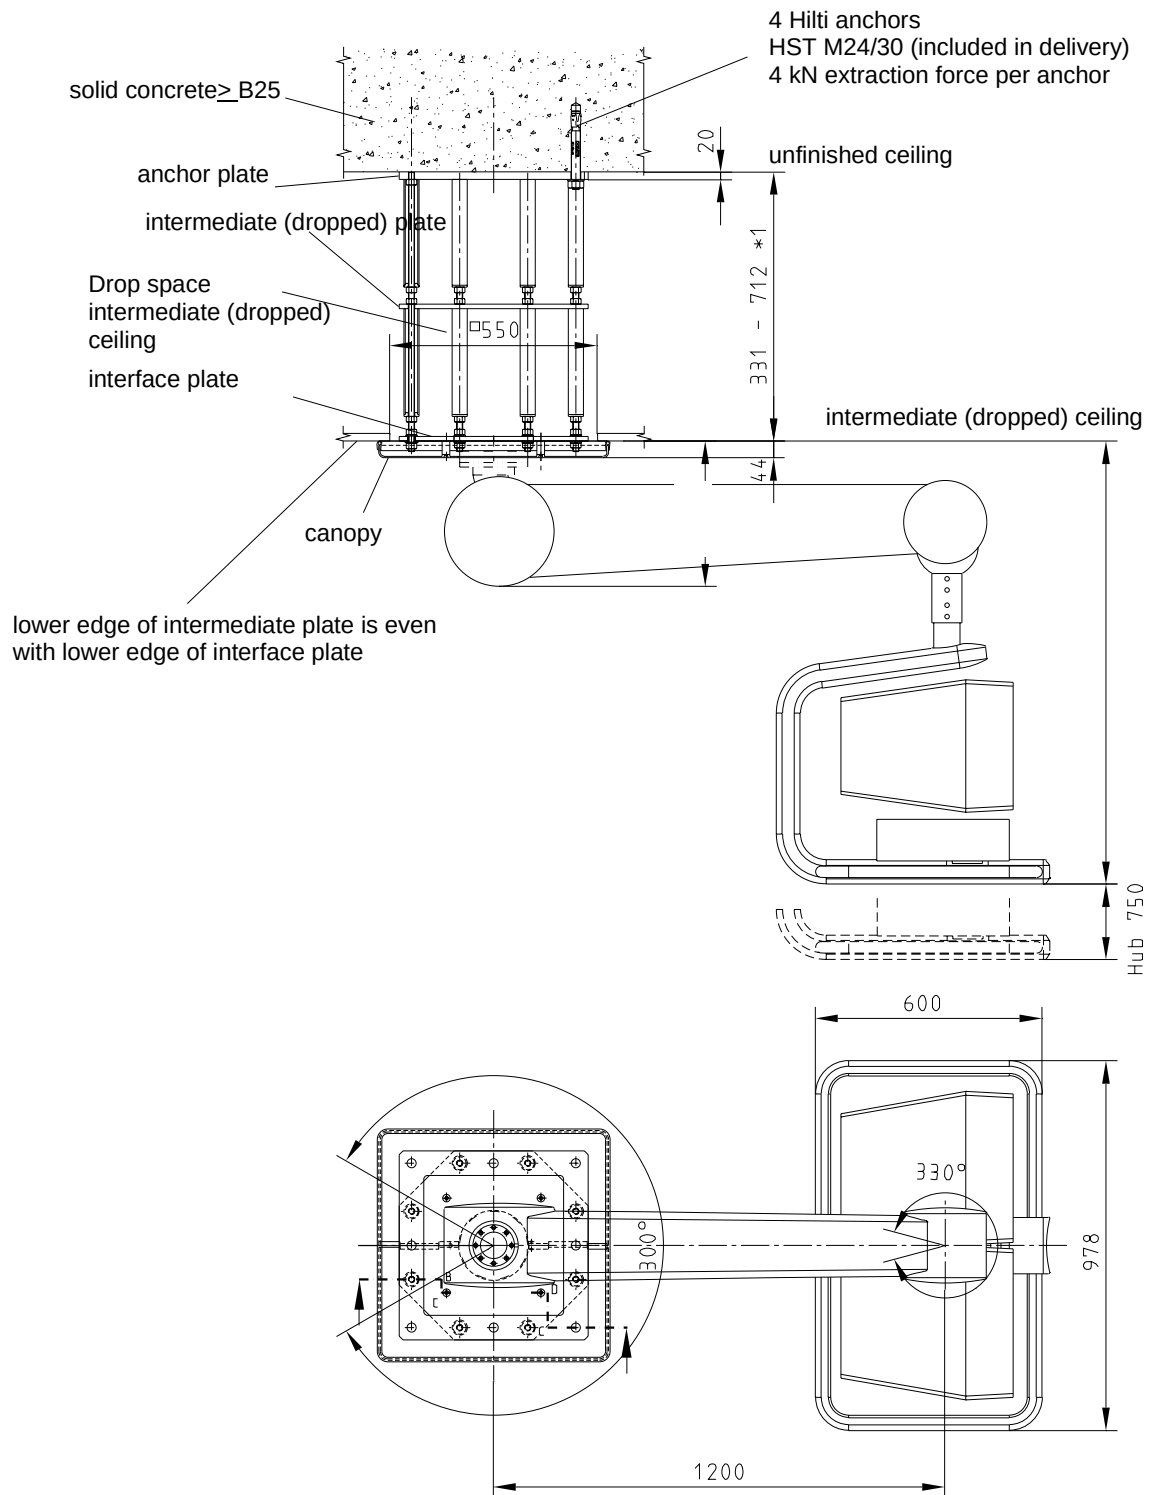

Fig. 8 Monitor suspension system sub-ceiling
NOTICE**Fig. 8, Fig. 9, and Fig. 10:**
- Push the intermediate plate up to the nuts. Again, slide 8 spacers over the threaded rods, secure them with the sleeves, and gently tighten them including the washers and M16 nuts; see **Fig. 8 A-E**.